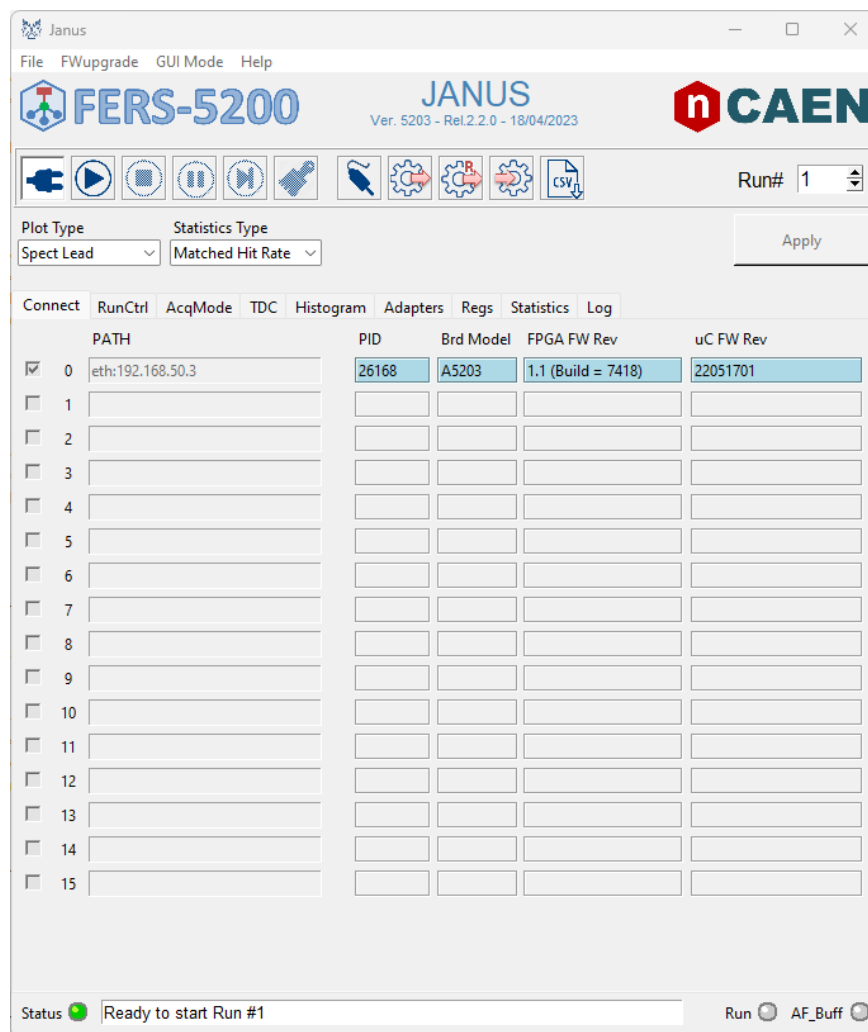

Fig. 11.16: Janus 5203 GUI starting interface when the connection is correctly established.
- Click on the Connect button on the top left part of the Janus 5203 window . The connection between the software and the board is established and the *gnuplot* graphic interface is opened as in Fig. 11.16.